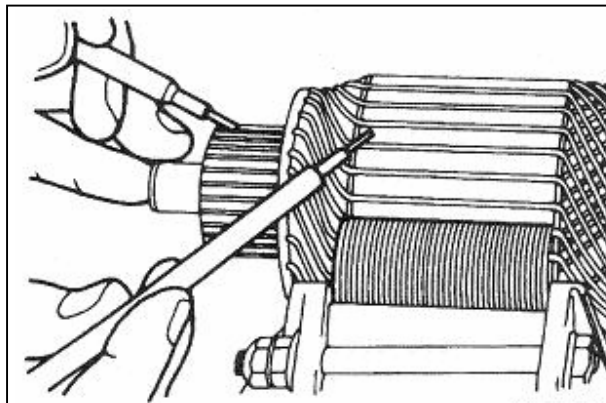

Fig. 9-25
(2) Armature coil earth test (see Fig.9-25)